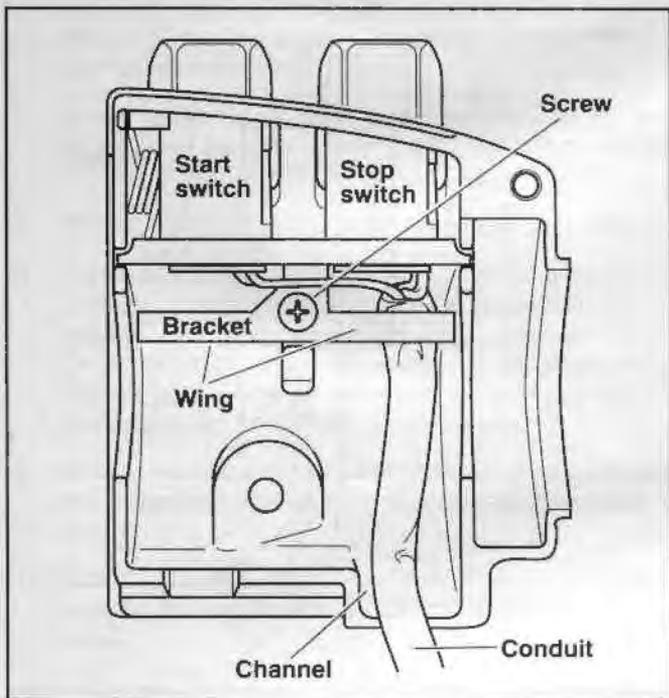
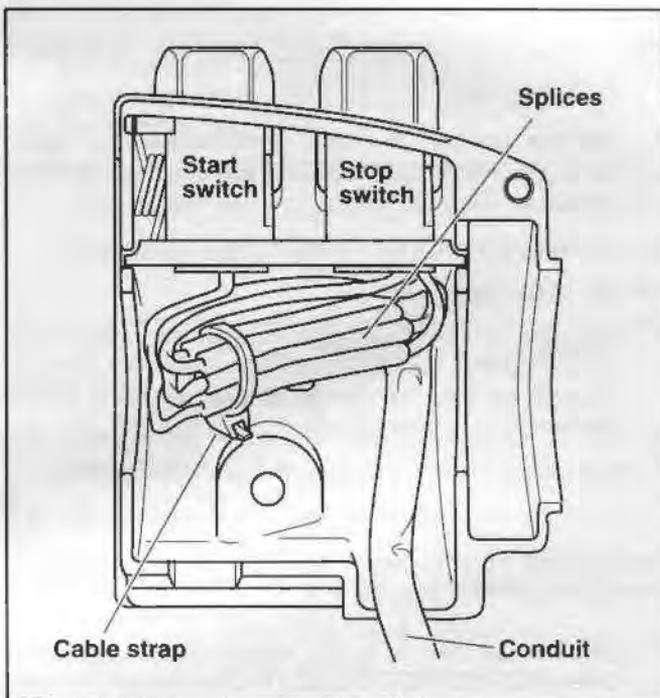

Figure 8-68. Upper Right Handlebar Switch Housing (Without Splices)
Figure 8-69. Upper Right Handlebar Switch Housing (With Splices)
1. See Figure 8-68. From inside the switch housing, remove the Phillips screw with lockwasher to release the bracket. Remove the bracket and switch assembly from the housing.
6. Loop switch wires so that spliced lengths are positioned as shown in Figure 8-69. Route wires downstream of splices beneath wing on engine stop switch side of bracket as seen in Figure 8-68.